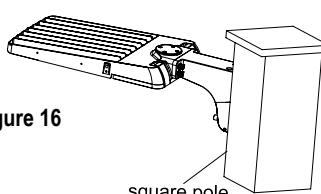

Figure 16
3. Make wire connections based on the wiring diagrams above. Put the connected wires into the junction box and seal it with the bottom lid on the mount. (see Fig. 16)
4. Secure the fixture by re tightening the two (2) bolts removed in step 1.